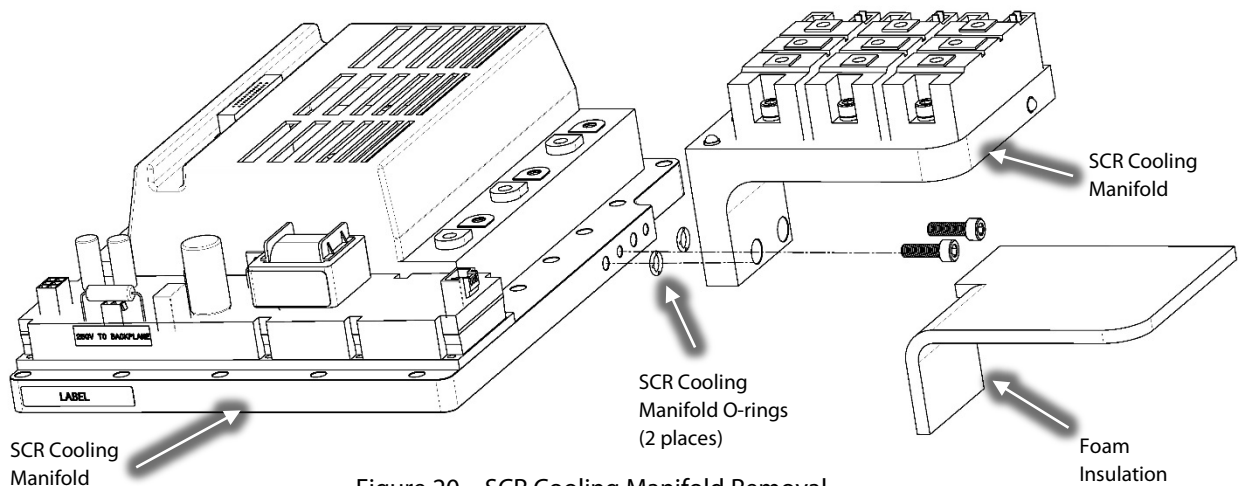

Figure 20 – SCR Cooling Manifold Removal
36. Carefully remove the SCR Cooling Manifold foam insulation in order to gain access to the fasteners shown in Figure 20 (SCR Cooling Manifold Removal). Retain for use with the new Inverter assembly.
37. Remove and discard the M6x20 fasteners indicated in Figure 20 (SCR Cooling Manifold Removal) and carefully remove the SCR Cooling Manifold. Retain the SCR Cooling Manifold and SCRs for use with the new Inverter assembly.